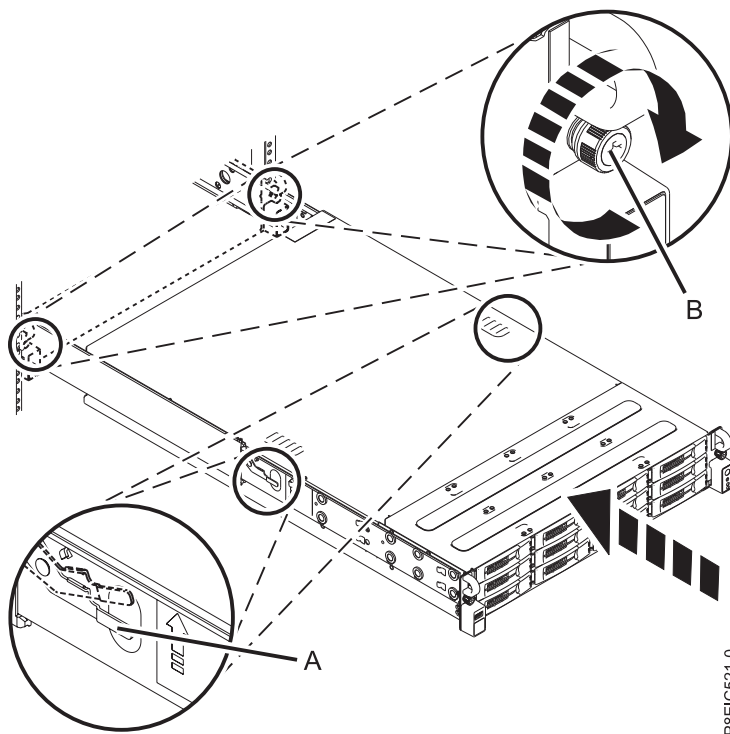

Figure 46. Placing the system into the operating position
5. Release the rail safety latches (A) by lifting them upward, as shown in Figure 46, then push the system fully into the rack.